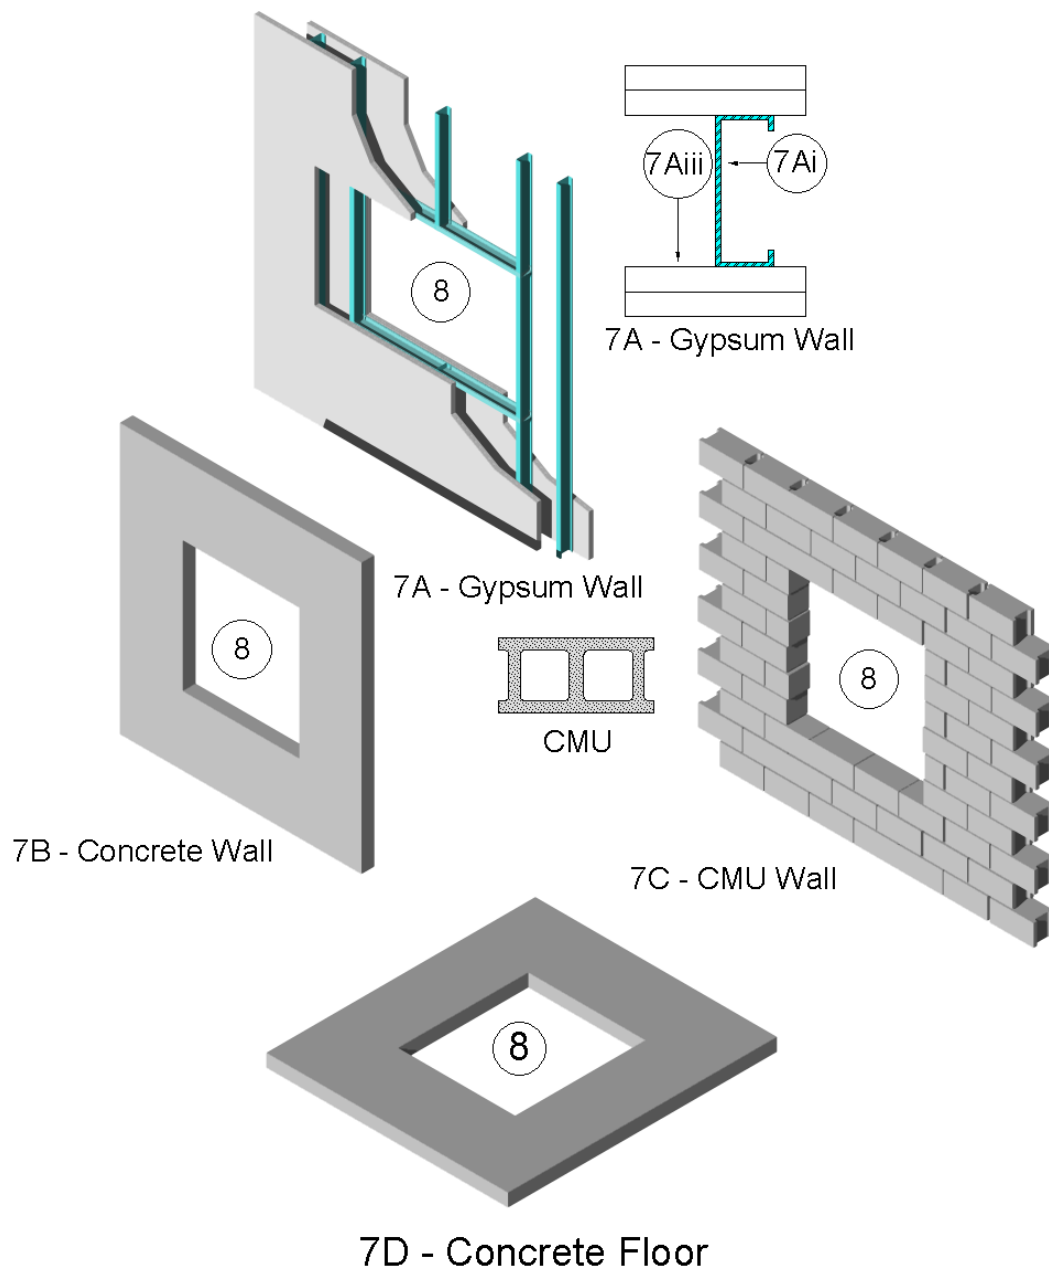

Figure 5 – Supporting Constructions
7. SUPPORTING CONSTRUCTION: Refer to Figure 5. Use one of the following wall or floor assemblies.